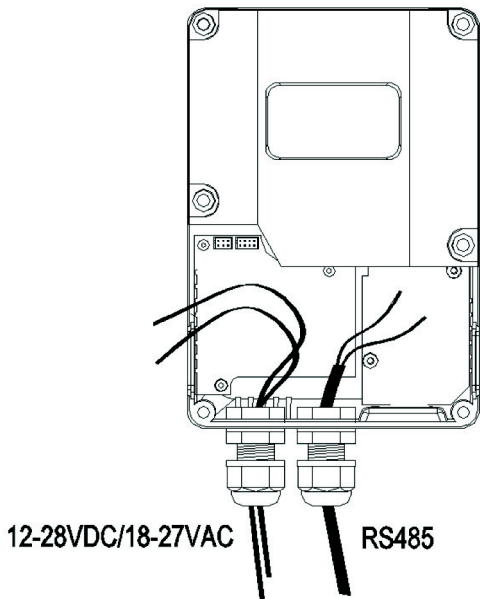

Fig. 23.
3. Run the power cable and RS-485 cable through each waterproof connector as shown in Fig. 23.